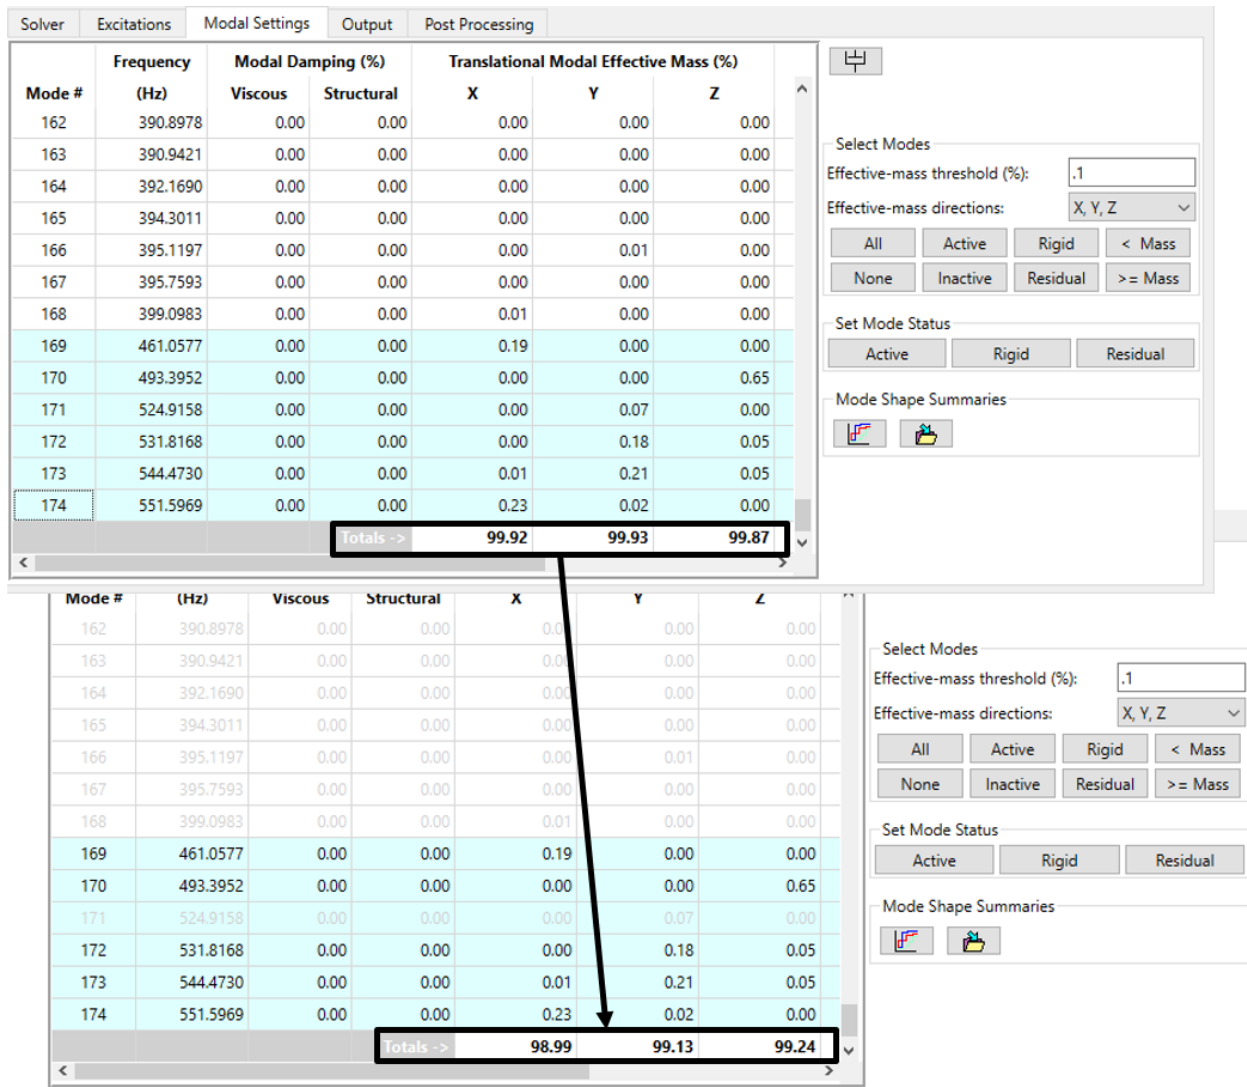

Figure 4-73. All but 51 of the 174 modes are turned off, but 98% of the effective mass remains.
- With the low-mass modes selected, click the **Active** button in the *Set Mode Status* panel to deactivate the selected modes (Figure 4-73). This leaves only 51 of the 174 modes active, so the solver will compute responses at many fewer frequencies. Note, however, that we have deactivated less than about 1% of the effective mass for any of the translations.